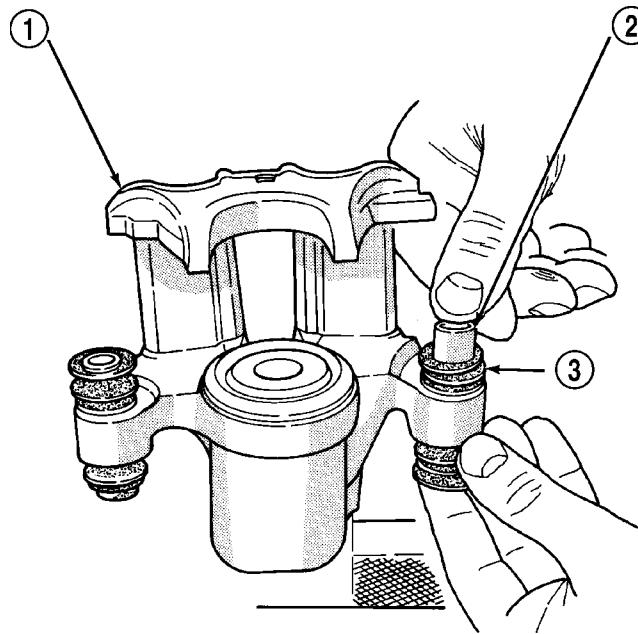

Fig. 35 Installing Sleeve In Bushing
(5) Install the guide pin sleeve into one end of bushing until the seal area of bushing is past the seal groove in the sleeve (Fig. 35).
(6) Holding the convoluted boot on the opposite end of the bushing, push the steel sleeve through the bushing until the bushing boot is fully seated into the seal groove on that end of sleeve (Fig. 35). Install the other end bushing boot into the groove on that end of the bushing sleeve.